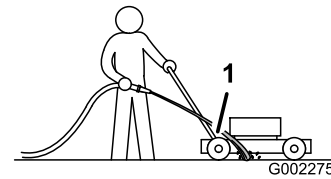

Figure 31
3. Hold the running garden hose at handle level and direct the water to flow on the ground just in front of the right rear tire (Figure 31).